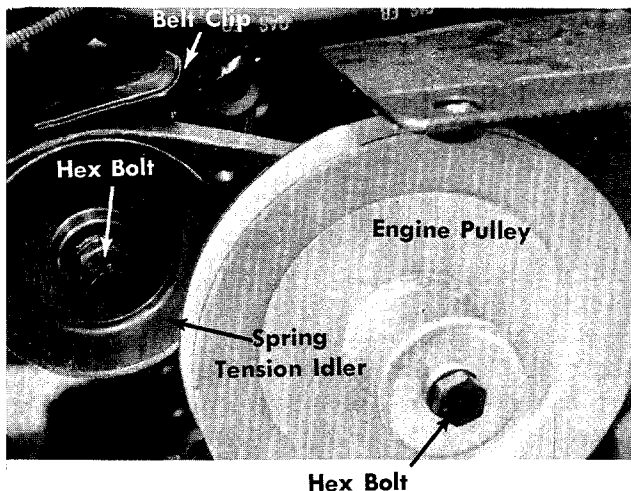

FIGURE 21 ENGINE PULLEY
Step 3. Remove the hex bolt holding the engine pulley to the crankshaft of the engine. Pull the pulley off so the belt can be removed. See figure 21.
Step 7. Remove the hex bolt on the engine pulley and slide the pulley and V-belt off the engine crankshaft. See figure 21.